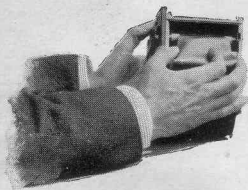

FIG. 5
V. Thread into the slot in reel, (see Fig. 5) being careful that the paper draws straight and true, and turn the key until the paper is taut. See Fig. 6.